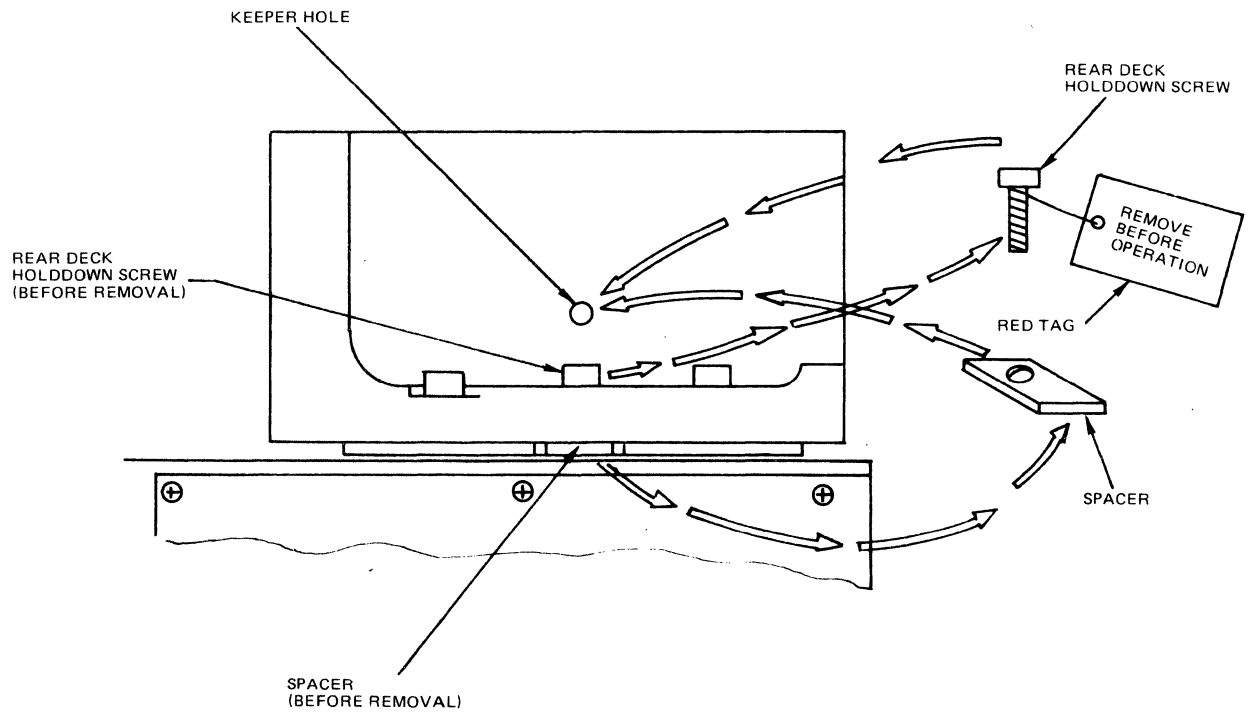

Figure 2-5 Removal of Rear Deck Holddown Screw and Spacer
3. From rear of upper mass storage unit, locate the rear deck holddown screw (i.e., center of three screws at rear deck casting) and associated spacer (red tag attached) (see Figure 2-5). Remove rear deck holddown screw and spacer and store them in threaded keeper hole at rear of deck casting. Discard red tag and string.
4. From rear of expansion drawer, locate rear deck holddown screw (i.e., center of three screws at rear deck casting) and associated spacer (red tag attached) (see Figure 2-5). Remove rear deck holddown screw and spacer and store them in threaded keeper hole at rear of deck casting. Discard red tag and string.